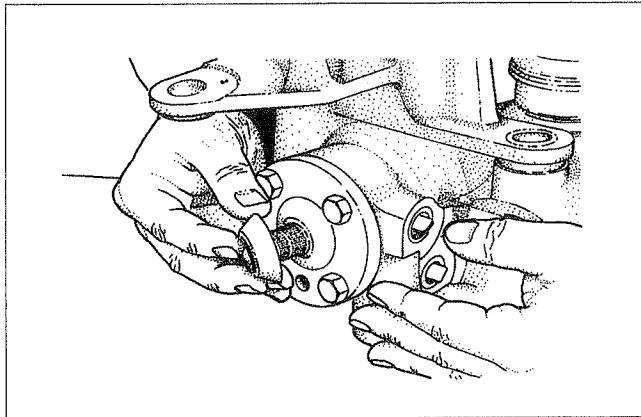

Figure 23
4. Install the salt seal over the input shaft ensuring the lip faces outward. Push the salt seal into the bearing cap cover until it is flush with the face of the cap (Figure 23).